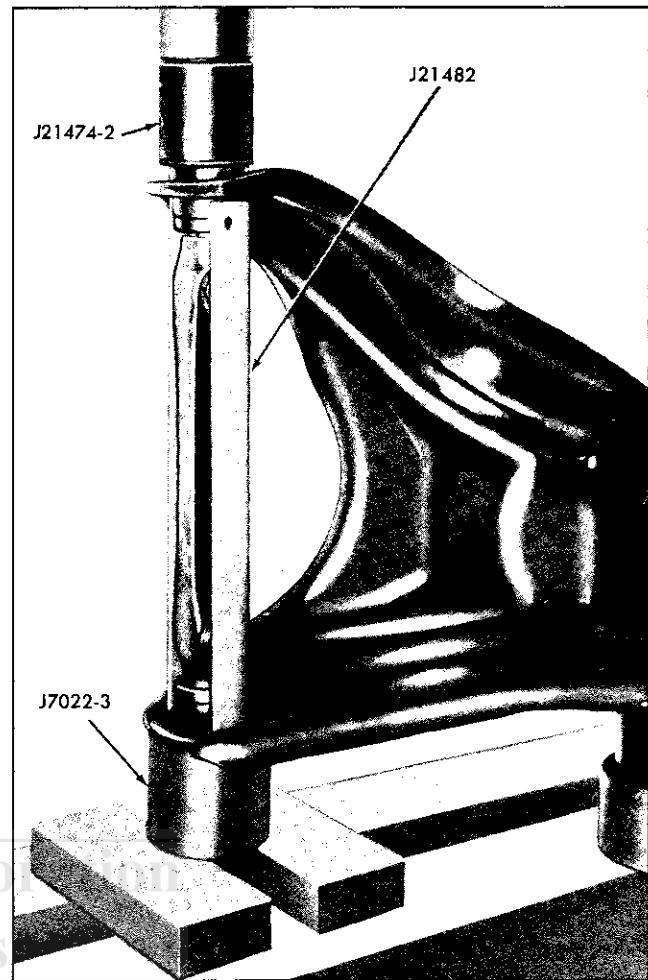

Fig. 3-13 Installing Upper Control Arm Bushing
1. Install arm in arbor press with tool J 21482 in place and press in one bushing using J 21474-2 as shown while supported on tool J 22899 as shown in Fig. 3-13.